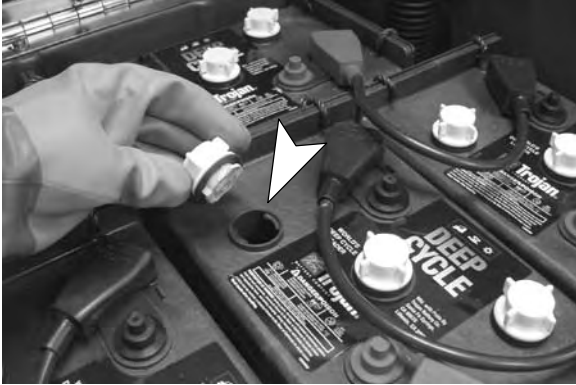

FIG. 27
2. Before charging the batteries, check the electrolyte level in each battery cell (Figure 27).